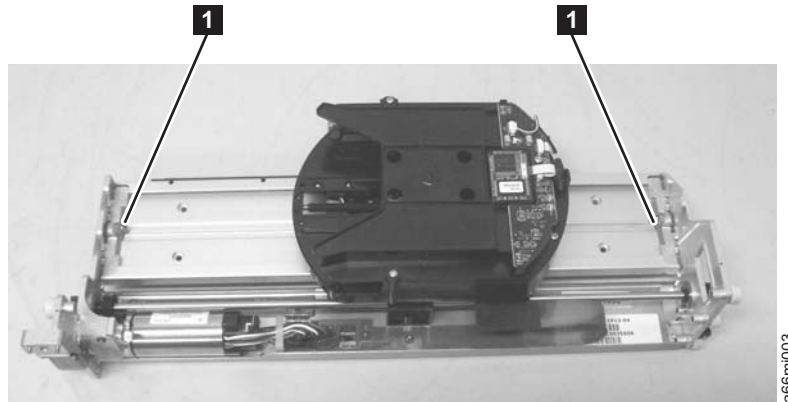

Figure 8-53. Thumb screws
7. Loosen the front and rear thumb screws (**1** in Figure 8-53 on page 8-54).
2. Tighten the front and rear thumb screws (**1** in Figure 8-53).
3. Reach through the Access Door and loosen the screws (**1** in Figure 8-53) on the front and rear of the Picker Assembly.
3. Reach through the I/O Station door and tighten the screws (**1** in Figure 8-53 on page 8-54) on the front and rear of the Picker Assembly.